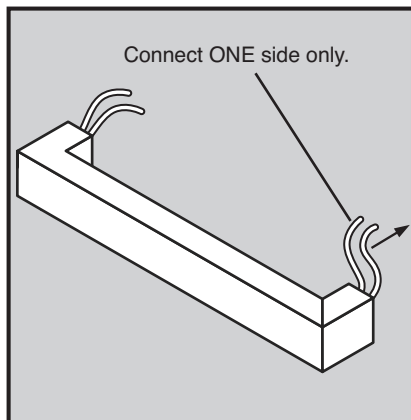

Figure 4
**IMPORTANT: Strata rails are manufactured with two elements. Only one element must be connected. The tails of the unused element must be cut off. (refer Fig 4 and 5)**